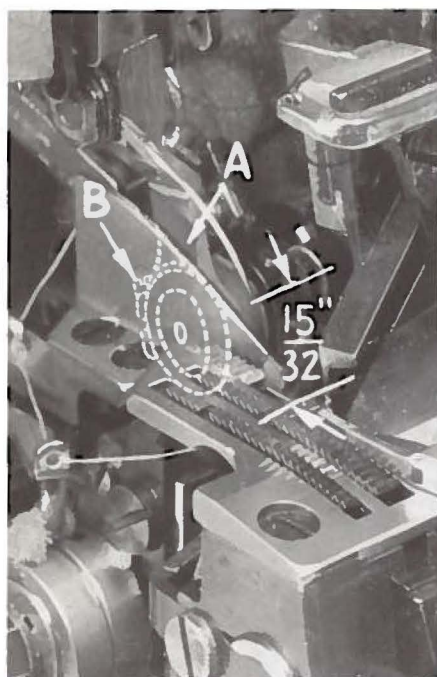

Fig. 3
With throat plate in position, needle should center in the front end of needle slot. When needle is at high position, needle point should be set $15/32$ inch above throat plate (Fig. 3). Move needle driving arm (A, Fig. 3) by loosening clamp screw (B). Remove throat plate.